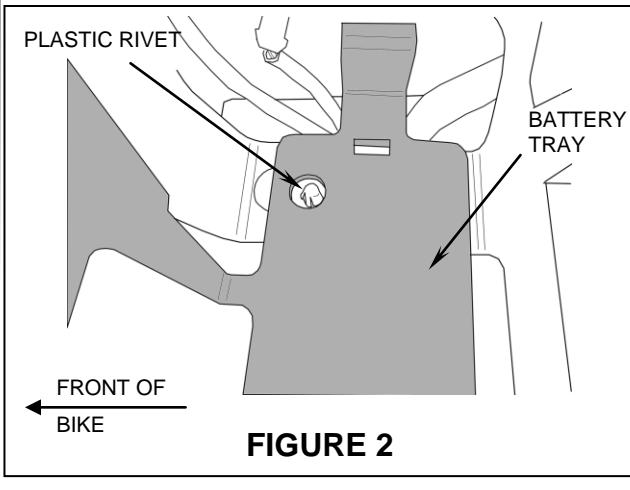

FIGURE 2
7. To install the rear O₂ sensor harness remove the plastic push rivet located under the battery. See Figure 2. This will release the O₂ sensor connector under the oil tank. Unplug the factory O₂ connector.